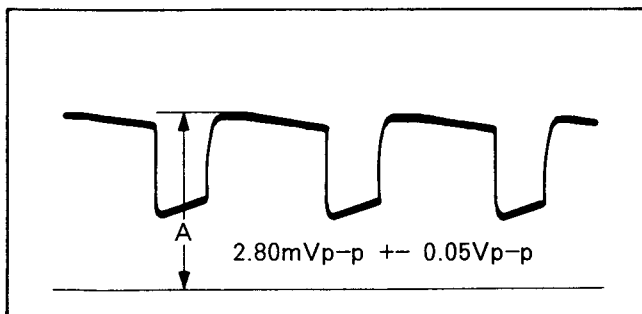

Fig. C37
- (4) Adjust the VH frequency level control (C737) so that DC level at TP705 becomes $2.8\text{V} \pm 0.05\text{V}$ as shown in Fig. C37.